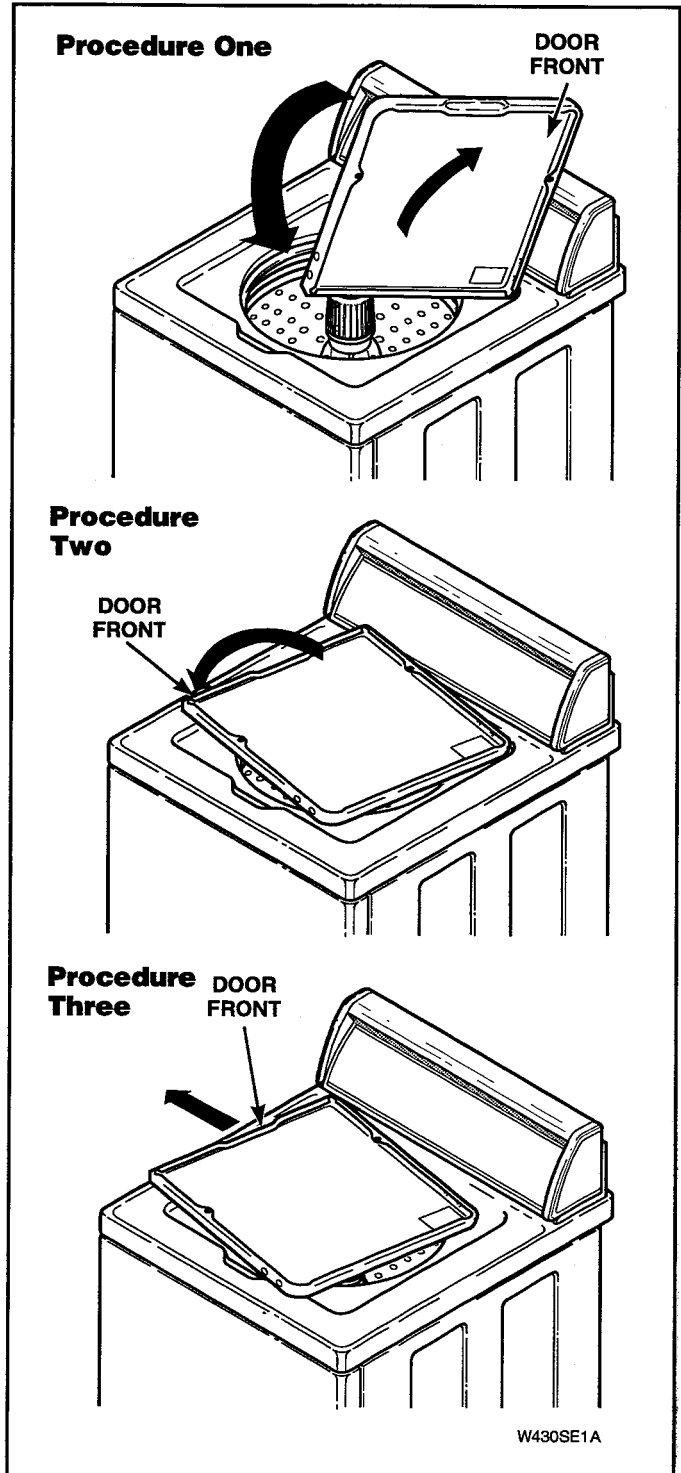

Figure 5-10
- Raise loading door to a nearly vertical position, to disengage loading door from loading door clip, swing left side of door toward front of washer. See Figure 5-10, **procedure one**.
- Rotate loading door so door is upside down. See Figure 5-10, **procedure two**.
- Carefully remove loading door, right hinge and bushing from cabinet top. See Figure 5-10, **procedure three**.